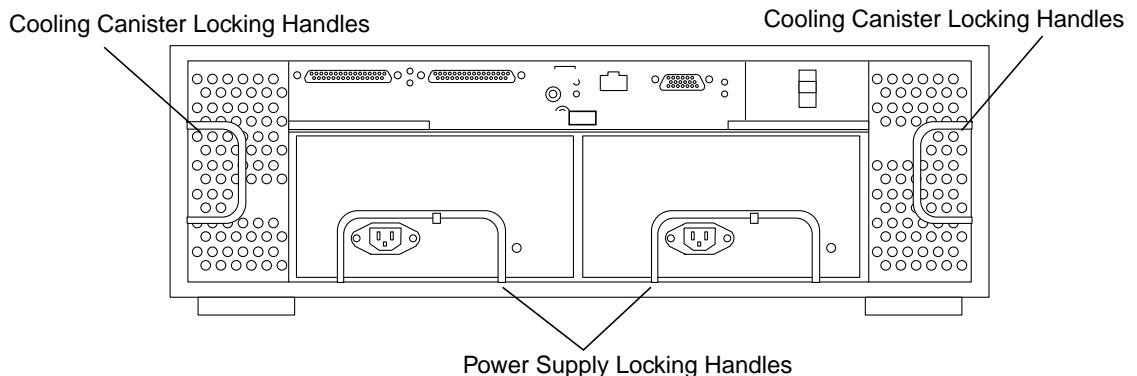
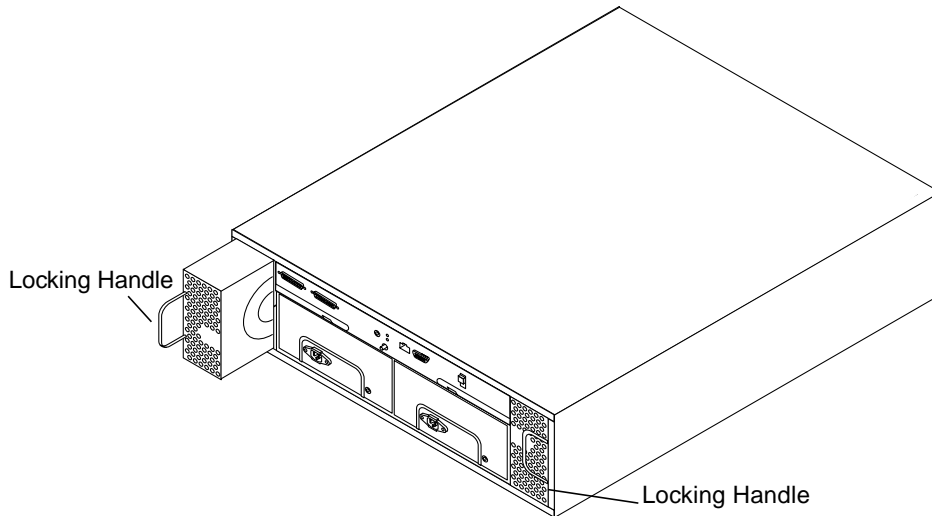

FIGURE 3-2 Rear of Sun StorEdge A1000 System
FIGURE 3-3 Removing and Replacing a Cooling Canister
1. **Release the locking handle and pull the cooling canister out (FIGURE 3-2 and FIGURE 3-3).**
You cannot remove the power supply without first disconnecting the power cord. See FIGURE 3-2. and FIGURE 3-3 for the positions of the power connector and locking handle.
1. Locate the battery on the back of the unit. See FIGURE 3-2.